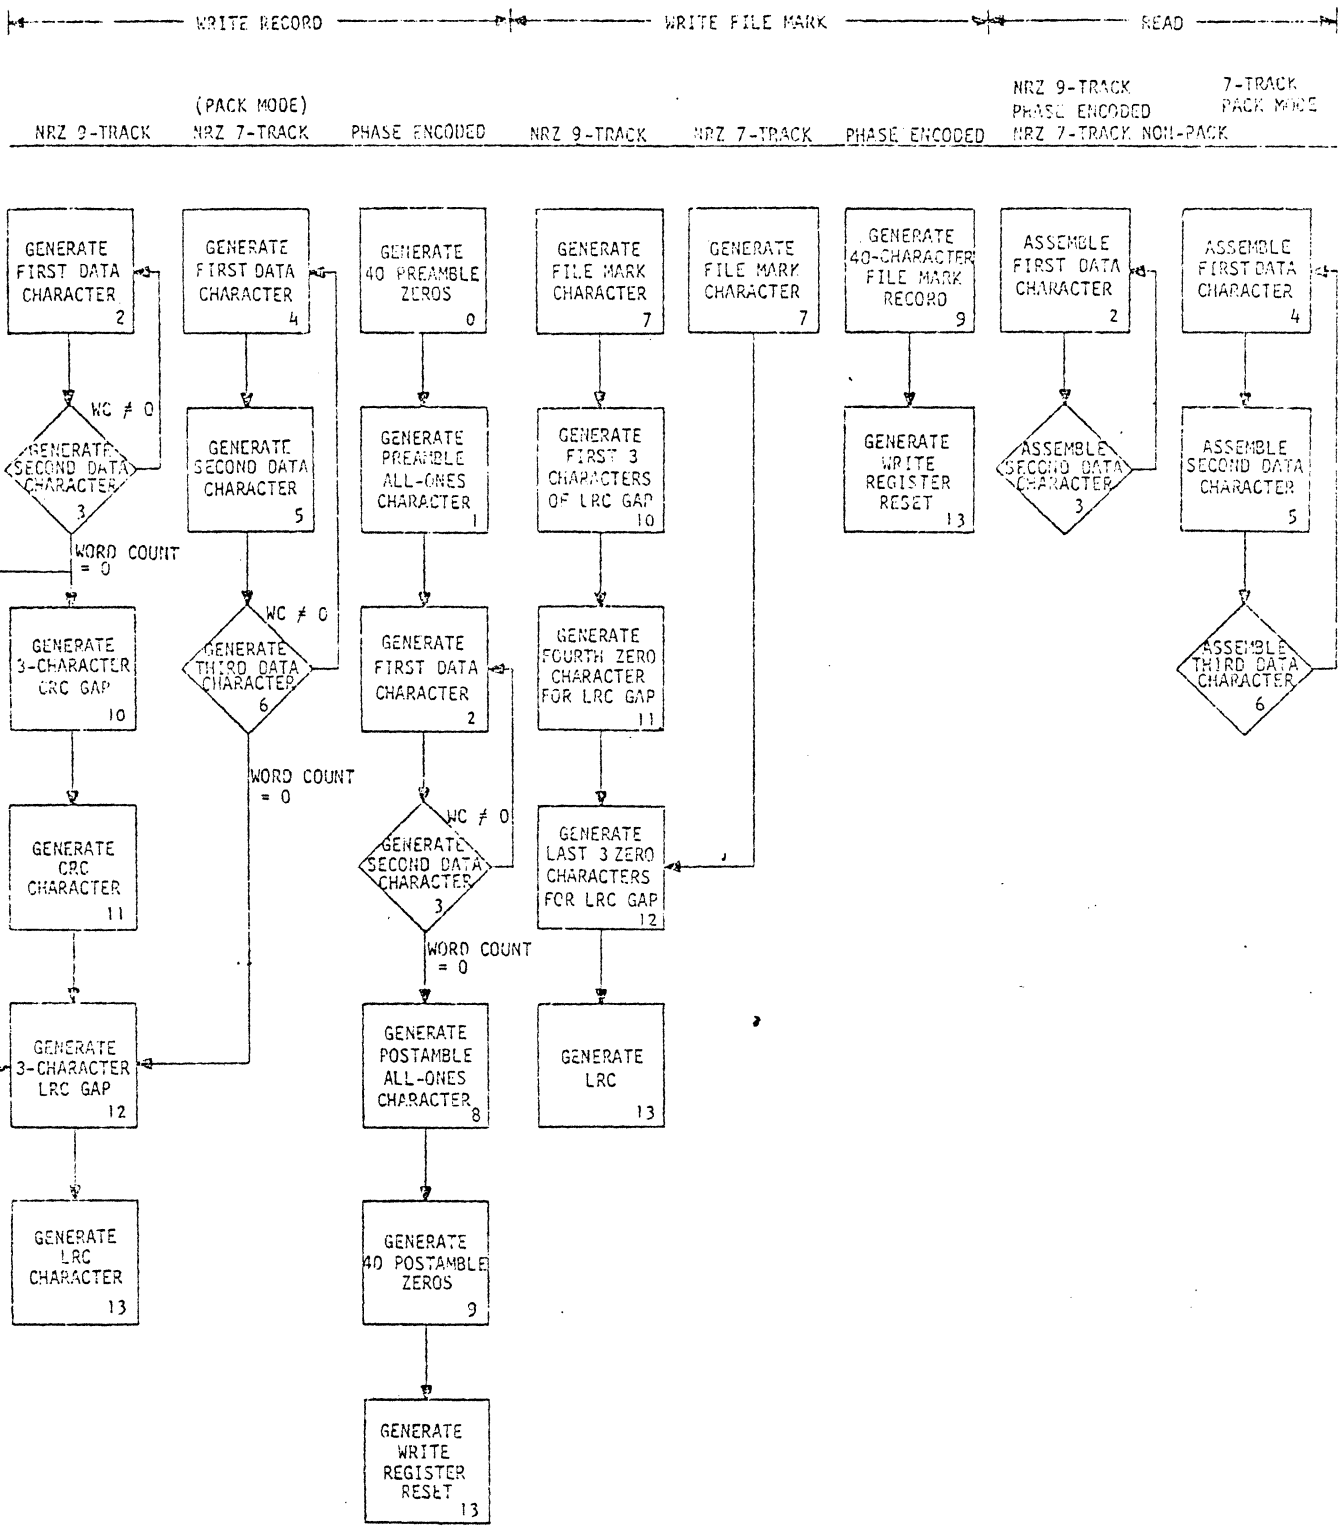

Figure 4-15 Write/Read Sequencer Flow Chart
4.53 WRITE/READ SEQUENCER. (See Tables 4-6 and Figure 4-15).